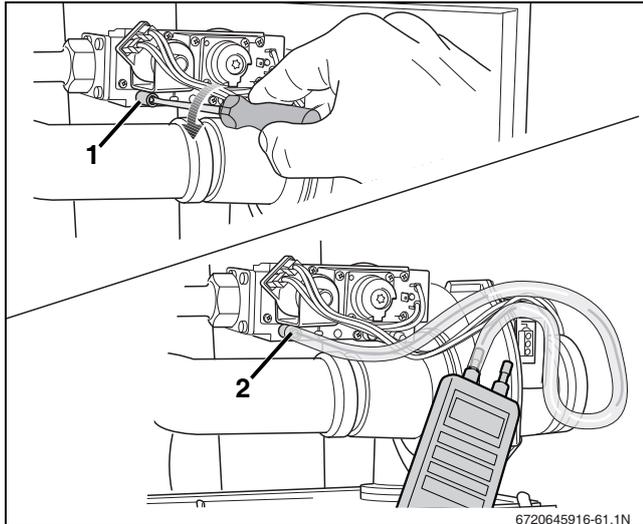

Fig. 65 Measuring the gas supply pressure
- ▶ Open the screw plug on the testing nipple for the gas inlet pressure by 2 turns (→ fig. 65, [1]).
- ▶ Connect the pressure gauge connection tube to the positive port of the testing nipple (→ fig. 65, [2]).